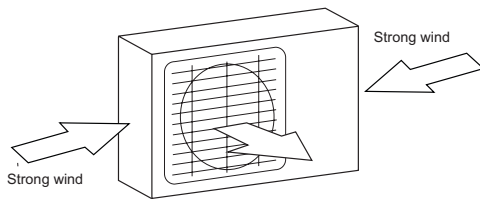

Fig. 6.1
- ✓ If the location is exposed to strong winds (for example: near a seaside), the unit must be placed against the wall to shelter it from the wind. If necessary, use an awning. (See Fig. 6.1 & 6.2)